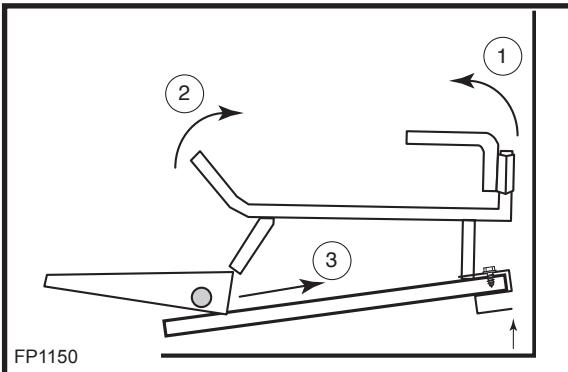

Fig. 1 Pull back of grate and hearth brick up, tilt front of grate up and slide burner pan under.
1. Place the burner pan in the fireplace. Two options are given to place the burner under the grate in the fireplace; Option 1: Pull the grate so that the back side of the hearth brick pulls up (1, Fig. 1) enough for you to tilt the grate up (2, Fig. 1) to slide the pan underneath (3, Fig. 1). Option 2: Remove the two sheet metal screws from the retaining brackets on the bottom feet of the rear grate legs, then remove the grate. The burner should be located several inches from the back wall, centered left to right.